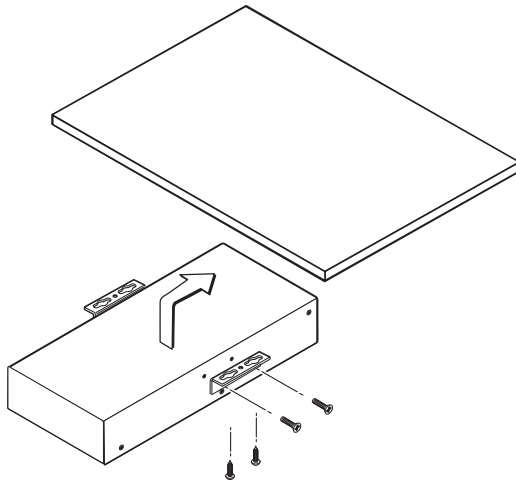

Figure 10 — Under-desk mounting the PS 124
1. Attach the mounting brackets to the power supply with the provided machine screws (figure 10).